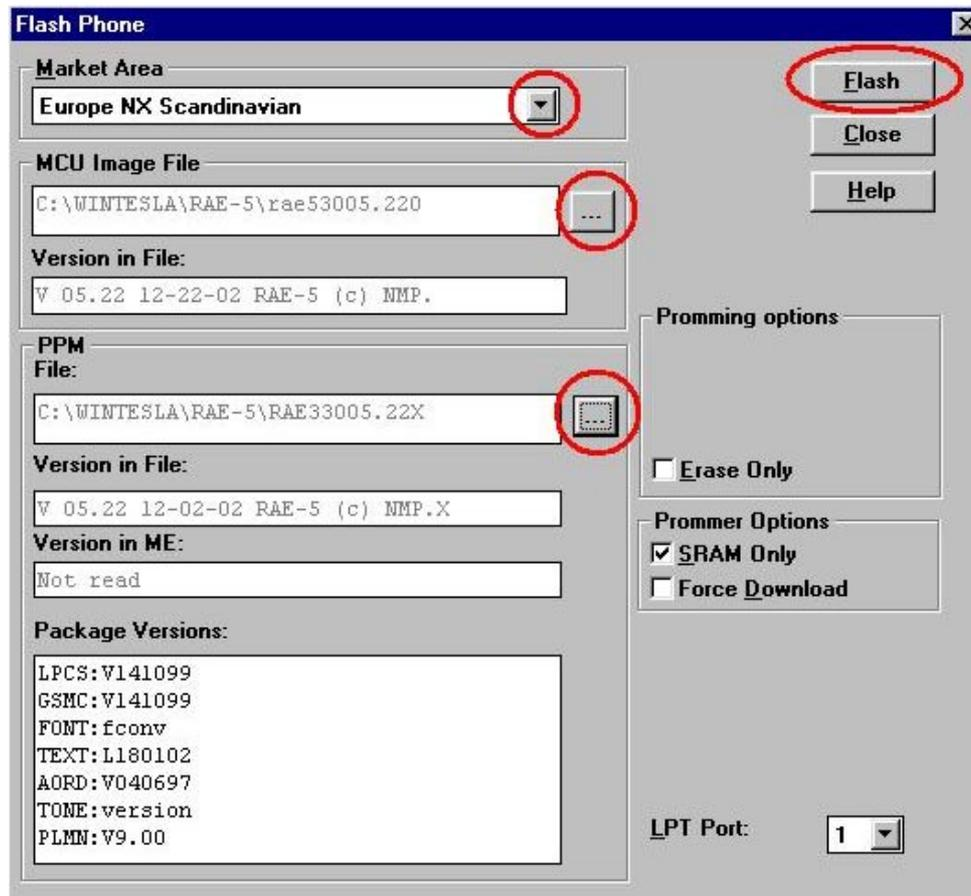

Figure 8. Flash phone –dialog
9. Press the **Flash** button (see Figure 8)
15. Insert the MMC that includes the correct SIS package. The same language and version as in the ROM image (same as 'Market Area' in Figure 8.)